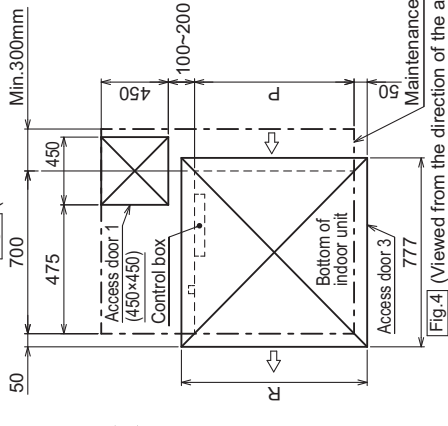

Fig. 4 (Viewed from the direction of the arrow B)
- Create access door 1 diagonally below the control box and access door 3 below the unit as shown in Fig. 4.